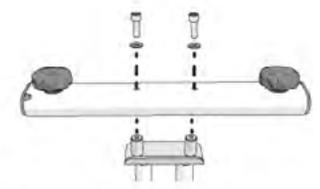

Figure 4
2. Attach the front stabilizer to the frame using two bolts **1** and two washers **2** (Figure 4).